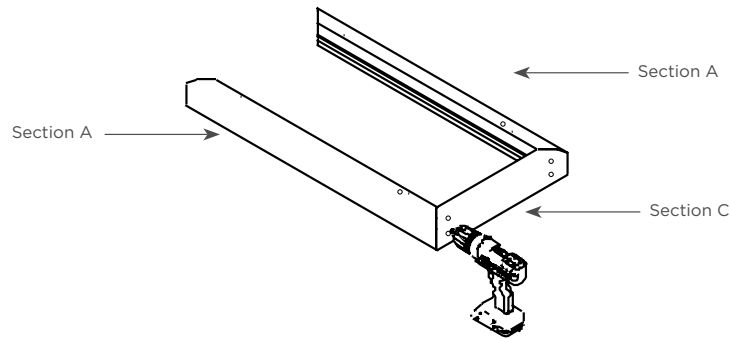

Figure 2
- 3 As shown in Figure 2, install section C to section A using the provided sheet metal screws. Using a #2 Phillips screwdriver, loosely set all four screws. Then use a #2 Phillips impact driver to tighten each screw evenly until all mitered corners align.